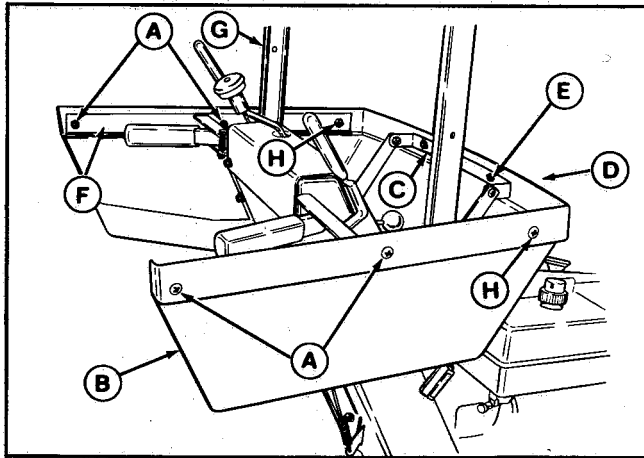

Figure 6
- Position the lower cover (B, figure 6), aligning the three holes in each side with the holes in the panel support brackets. Insert two screws (A) in the rear holes on each side to hold the lower cover in place as shown in figure 6. Install nuts on ends of the screws to hold in place.